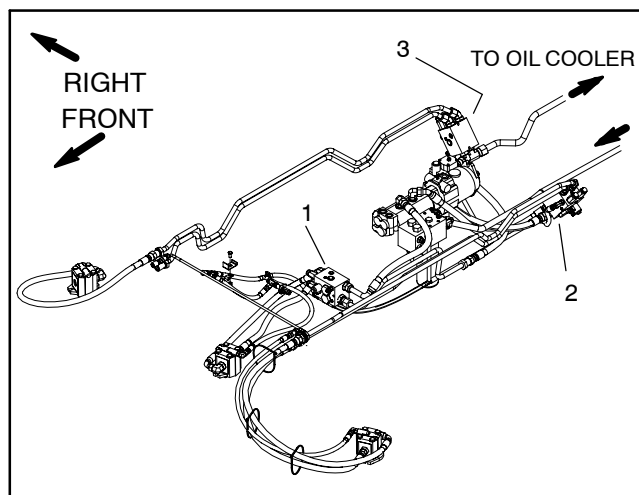

Figure 26
3. Locate deck manifold to be tested (Fig. 26). Disconnect hydraulic hose at deck manifold port (MP).
**NOTE:** An alternative to using manifold port (MP) would be to disconnect the inlet hydraulic hose at the deck motor.
4. Install tester with pressure gauges and flow meter in series with the the disconnected hose and hydraulic manifold port (MP) (or motor inlet if hose was disconnected at deck motor).